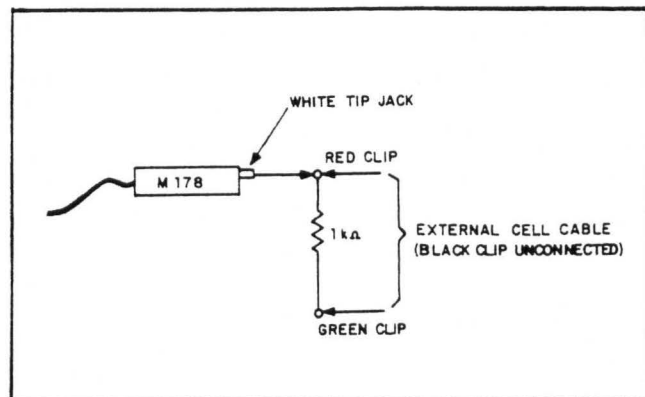

Figure III-1. EXTERNAL RESISTOR CONNECTIONS
- (2) Connect an external 1 kilohm load resistor as shown in Figure III-1. Take care that the black clip (unused) doesn't short against another circuit element.
- (3) Turn the power on, and, if the Overload light does not come on, proceed to the next step. If the Overload light does come on, the instrument has sustained some shipping damage and either the factory or your local representative should be contacted.
- (4) The "A" pushbutton should light when the power is turned on and the meter should read zero.
- (5) Switch the Cell Selector to EXT. CELL and again note that the meter reads zero.
- (6) Set the "A" potential to + 1.000 V and note that the meter deflects full scale.
- (7) Depress the "B" pushbutton and note that the meter returns to zero (the "B" light should come on).